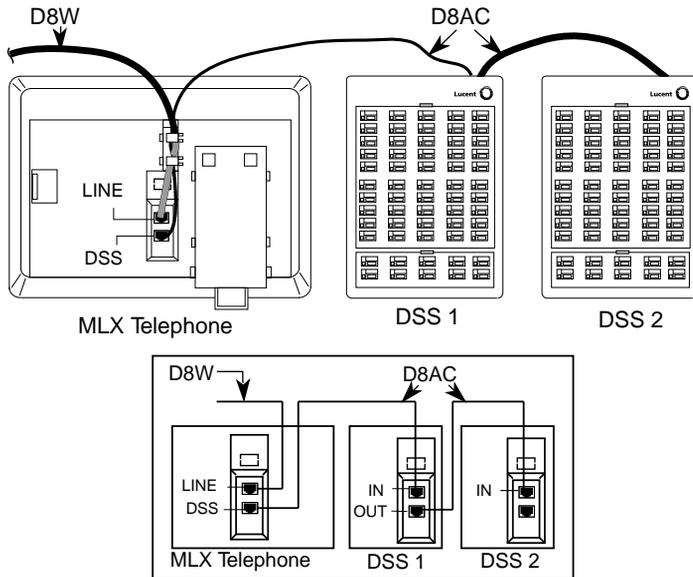

Figure 3-28. Connecting One or More DSSs
- ▶ **4. Wire the telephone to the DSS unit(s). See Figure 3-28.**